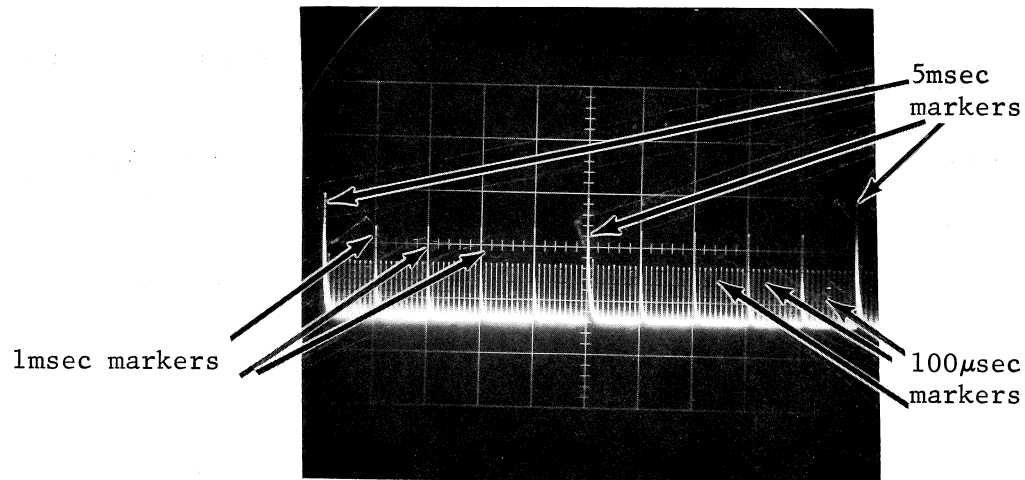

Figure 46
2. With the VARIABLE control, set signal amplitude to a convenient level and with the B TRIGGERING LEVEL control obtain a stable display. (See Figure 46)